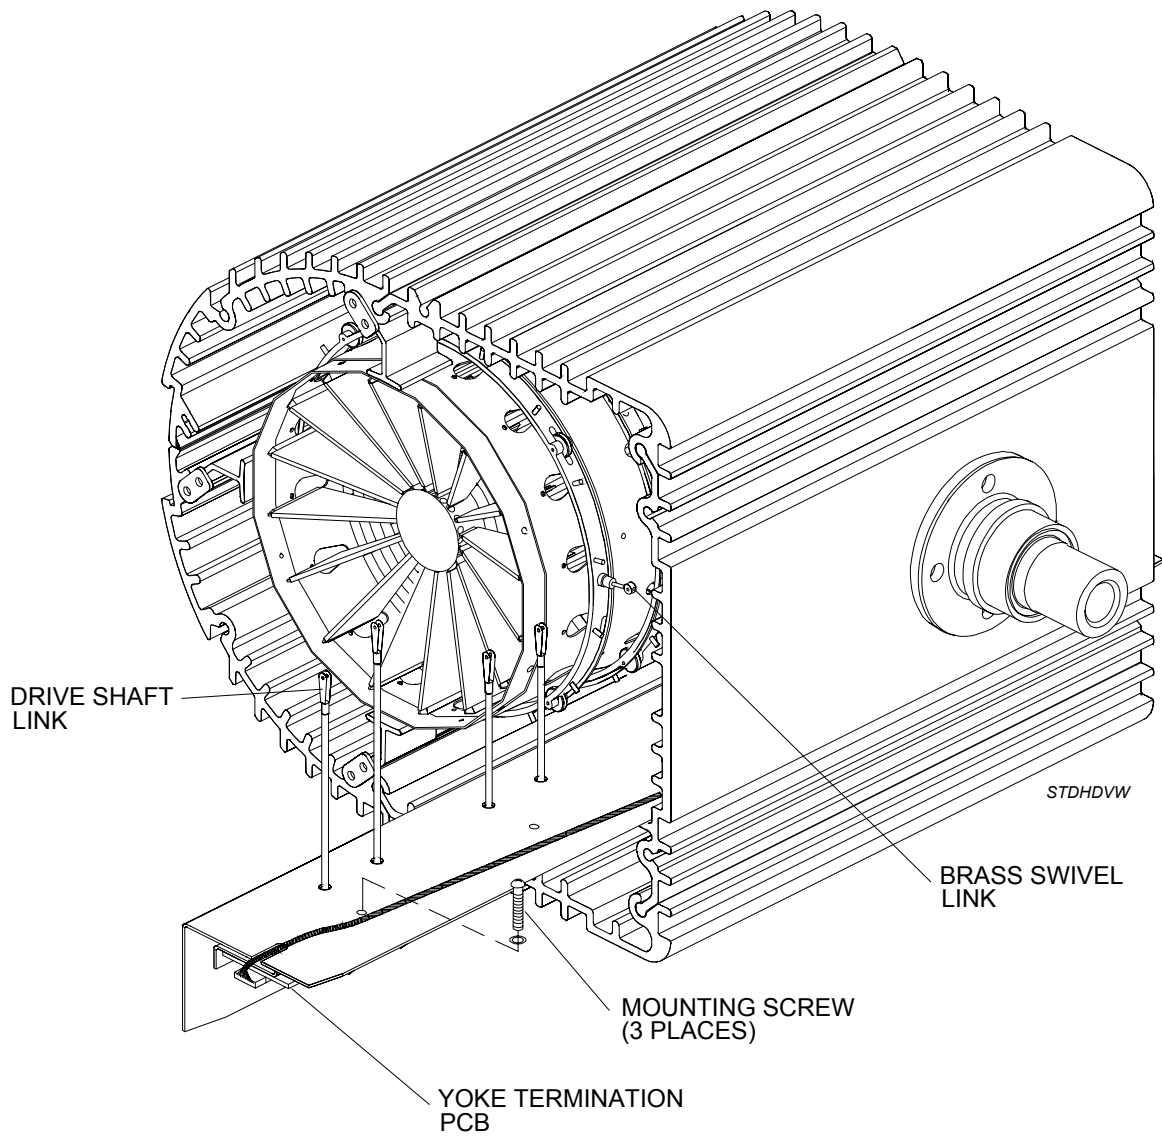

Figure 6.7 - Replacing Linear Actuator Motor Assembly.
2. Disconnect motor drive shafts from color mechanism drive rings as follows (see Figure 6.7):